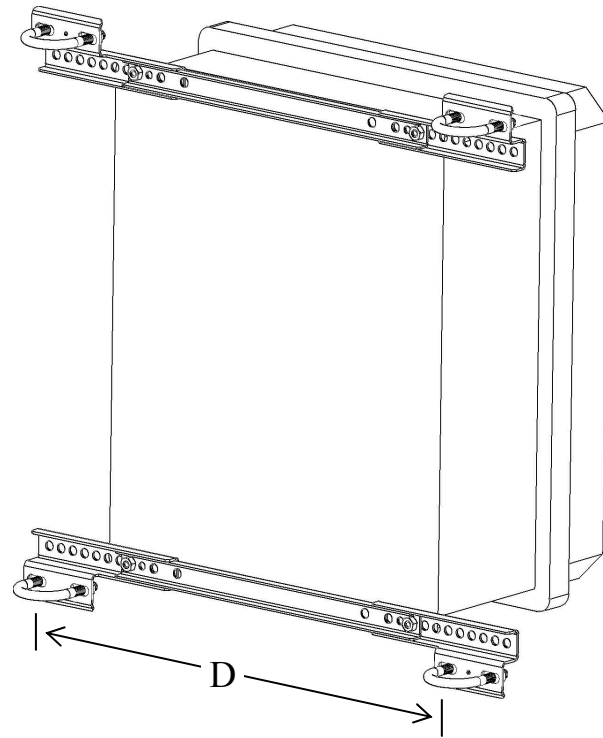

FIGURE 3.1-1. Enclosure brackets configured for a tower mount
The “-TM” option is used to attach our enclosures to a UT20 or UT30 tower. An enclosure ordered with the “-TM” option will be shipped with a three-piece bracket mounted to the top of the enclosure and an identical three-piece bracket mounted to the bottom of the enclosure. This mounting bracket option uses the same three-piece brackets as the “-MM” option, except the pieces are rearranged so that the flanges are on the side of the bracket instead of in the middle. The distance between the centers of each flange needs to be 17” (see Figures 3.1-1, 3.1-2, and 3.1-3).
2. Slide out the flange sections so that the distance between the centers of each flange is 17” (see Figure 3.1-1).